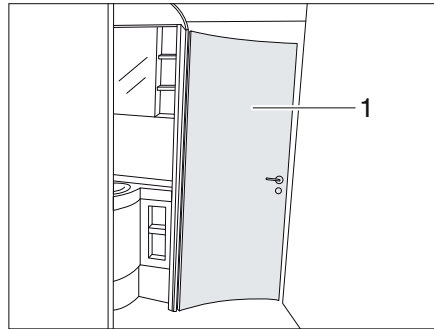

Fig. 220 Bath area
The door of the toilet area (Fig. 220,1) can be locked into a bath area in 1-3 different opening widths depending on the equipment. Depending on the selected opening width, different room segments can be combined with each other.
- ▷ The door of the toilet area (Fig. 220,1) may not be used as a partition during the journey.